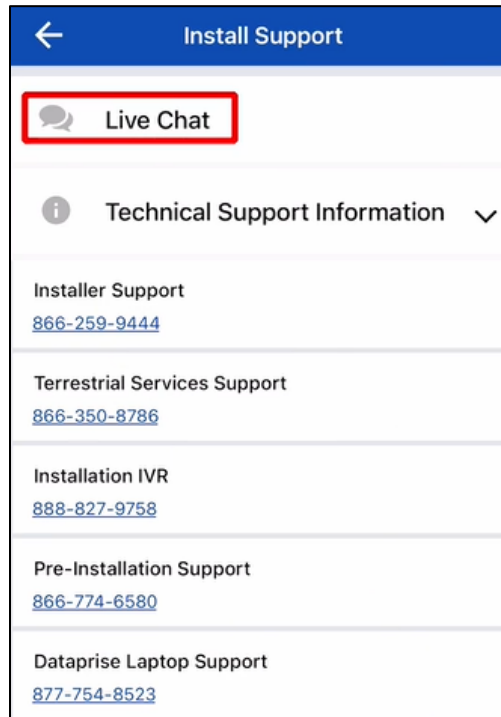

Figure 12: Install support
2. The *Install Support* menu will appear, as shown in Figure 12. You can choose to tap on any of the phone numbers to call any of the support lines directly or chat with a live agent using **Live Chat**.